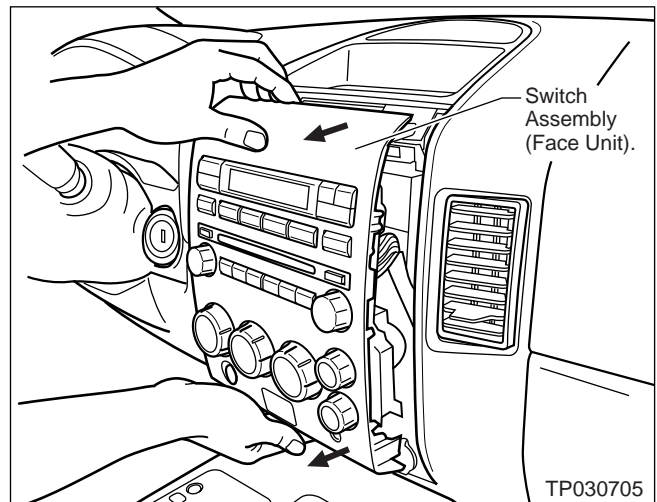

Figure 2
4. Pull the center dash “Switch Assembly” (face unit) loose from the dash (see Figure 2).